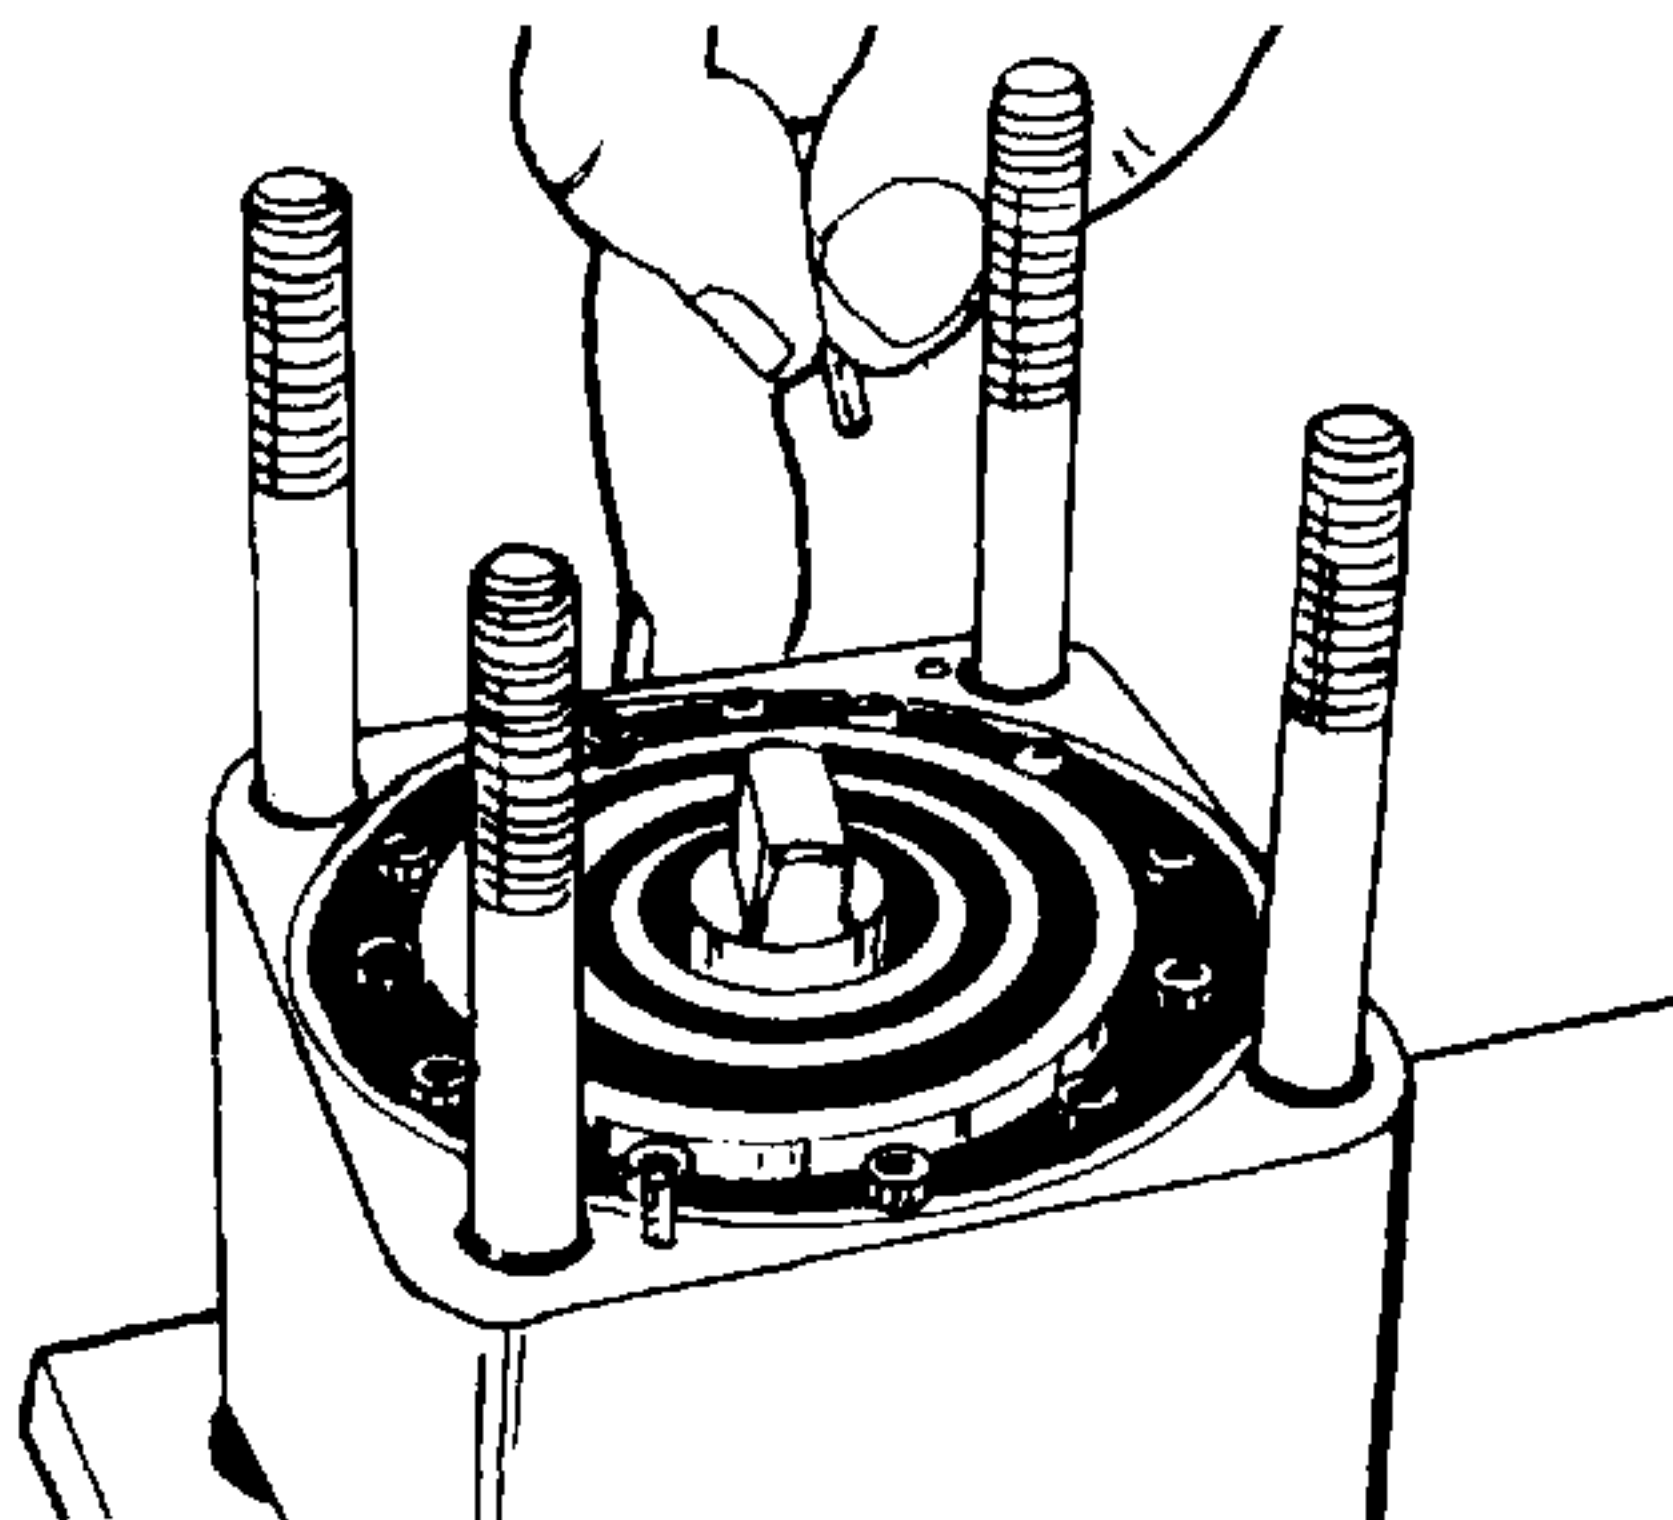

Figure 4-76. Installing Needle Rollers.
28. Place two needle rollers (11, Figure 4-1) into the metering ring (39). See Figure 4-76.